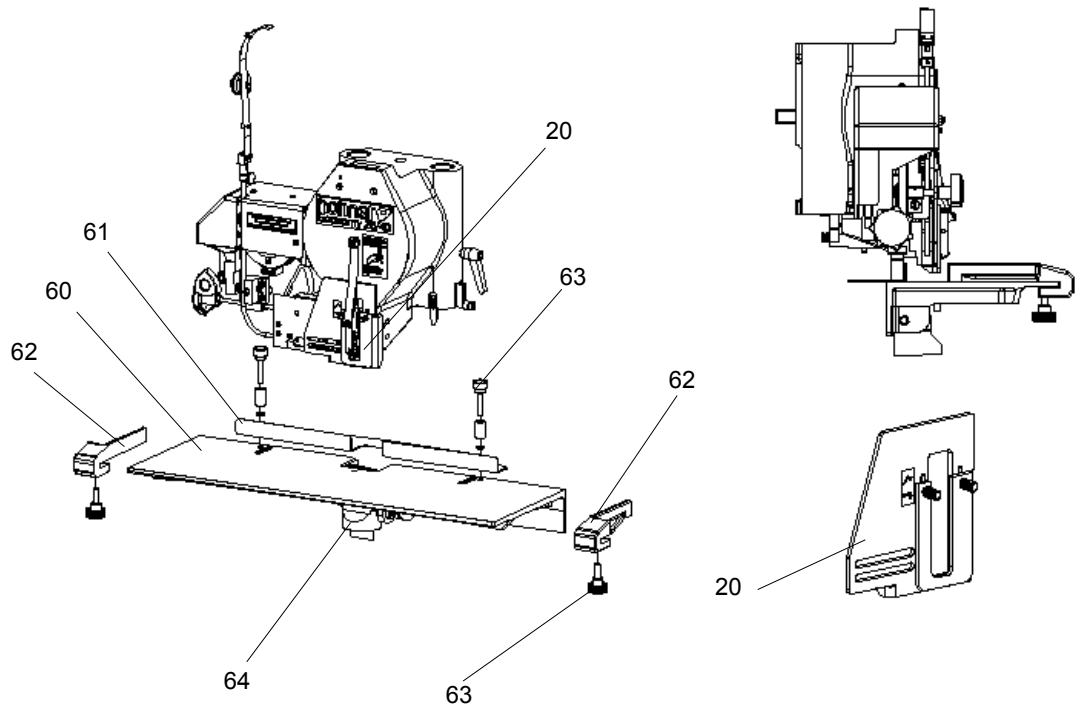

Fig. 4.10
- Fig. 4.10 -
- Mount the finger guard in the "**pad stitching**" position and note the markings (see - Fig. 4.10 -).